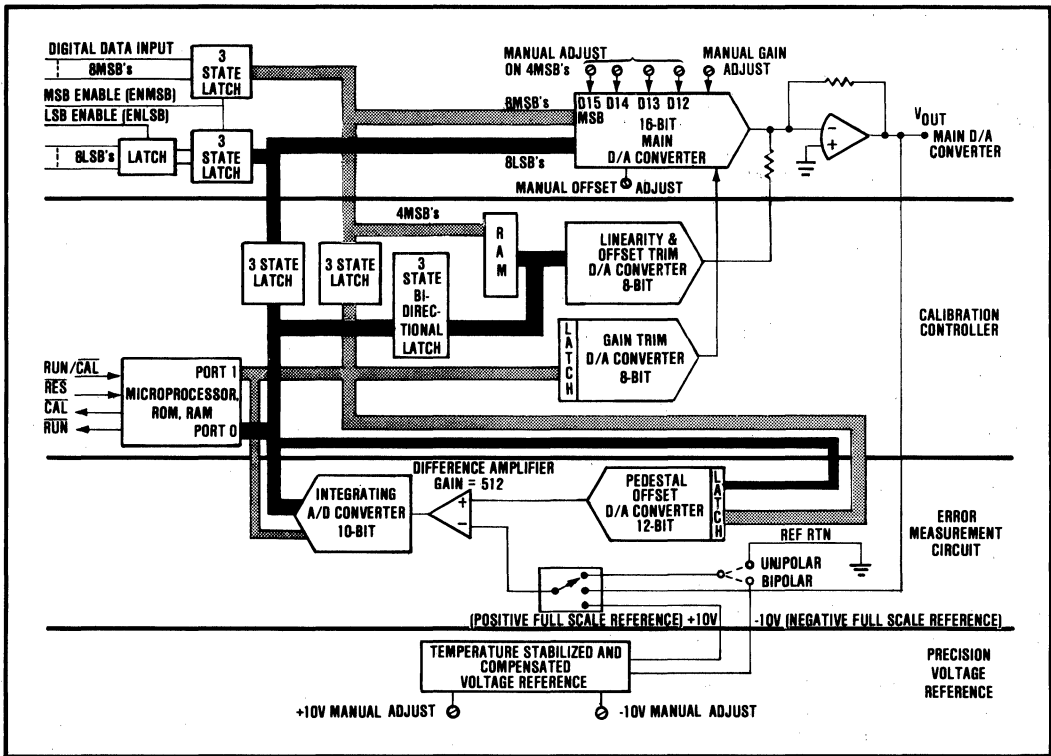

FIGURE 3. DAC74 Block Diagram.
The DAC74 (see Figure 3) consists of (1) a 16-bit, latched input main D/A converter, which performs the digital-to-analog conversion, (2) a stable, temperature-compensated voltage reference, (3) an error-measuring circuit which compares the D/A converter output to known references, and (4) a microcomputer-based controller that stores the output of the error measuring circuit and calculates correction factors for offset, gain, and linearity. The controller stores these correction factors in RAM and these are used to adjust errors when an input data word selected by the user is presented at the input to the main D/A converter.
The +10V and -10V references, shown in Figure 3, supply the voltage standards for calibrating the main D/A converter. The -10V reference is required only for bipolar operation. The $\pm 10\text{V}$ references derive their outputs from a heated zener reference diode. In addition, both reference circuits are temperature compensated to cancel variations caused by drift in the other components of the reference. The accuracy of these references over temperature and time determine the accuracy of the D/A converter after calibration. These reference voltages are available for external use but the load must remain constant. Alternatively, external +10V and -10V references may be used with the DAC74.